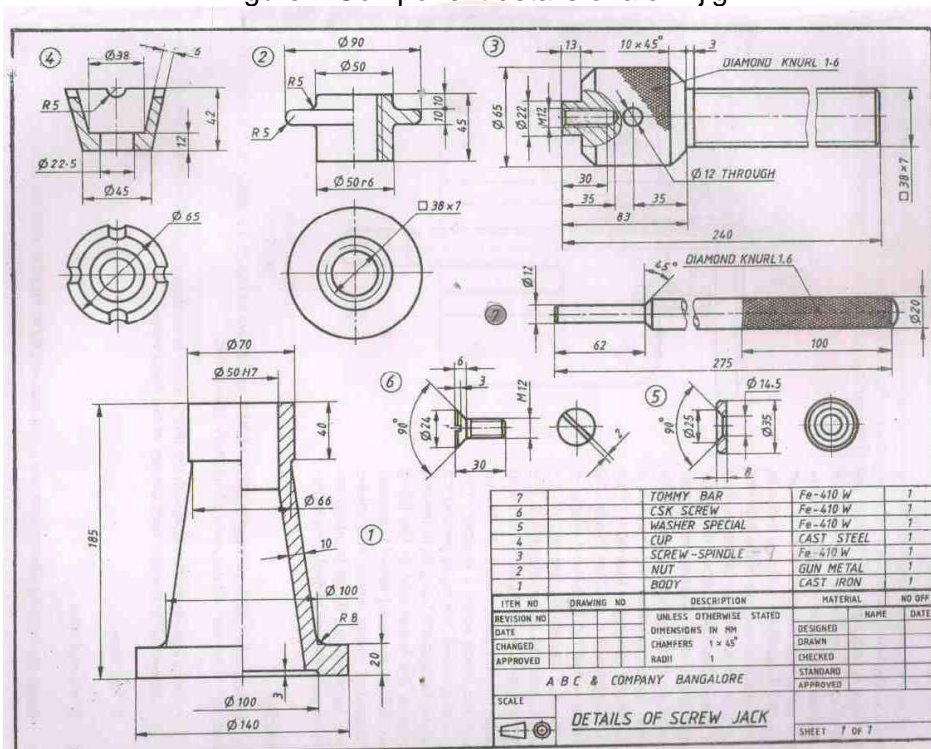

Figure 2 Component details of screw jack
2. The component drawing of the screw jack is given in the figure 2. Assemble them and draw the sectional elevation and left side view.